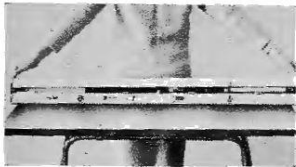

Fig. 3
3. Lift the upper case slightly and pull towards you. (See Fig.3) This will release the upper case which should be placed on the table beyond the knitter, inside up. The upper case contains large cast-on comb, small cast-on comb, automatic yarn tension unit, sinker plate assembly, and carriage handle.